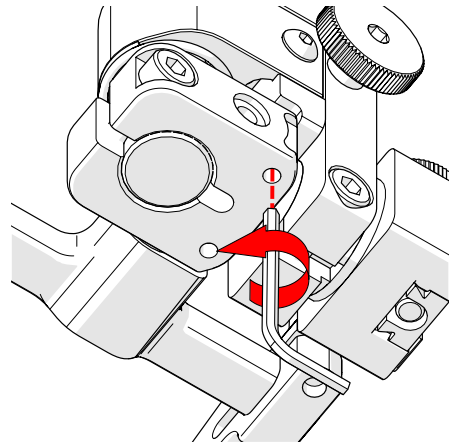

Fig. 124 - Lower 90° stop post
7. Locate the recessed M3 screw (stop post) on the bottom of the probe holder. Unscrew the stop post using a 1.5 mm hex wrench until it has cleared all obstructions. Do not remove the stop post (Fig. 124).